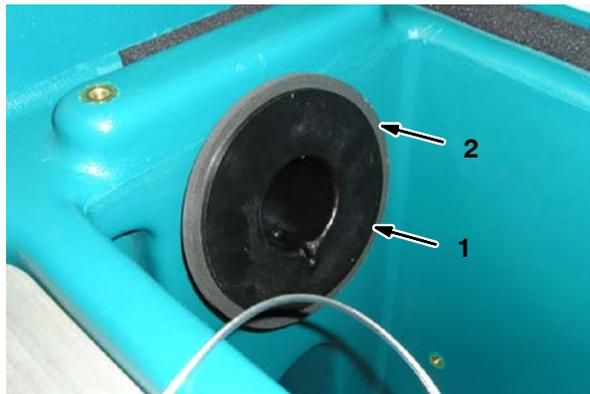

FIG. 4
- Insert the elbow tube into the recovery tank. Refer to Fig. 4.